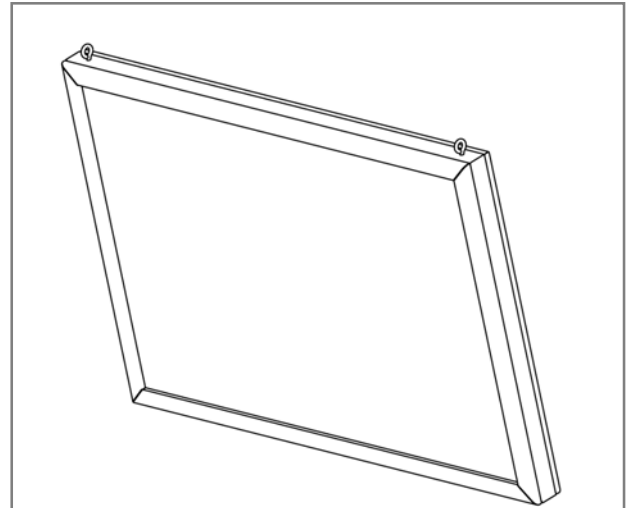

Figure 5
1. Hanging loops are attached to the unit when constructed. Attach appropriate hanging hardware (chain, cables, etc.) to suspend unit. **See Figure 5.**